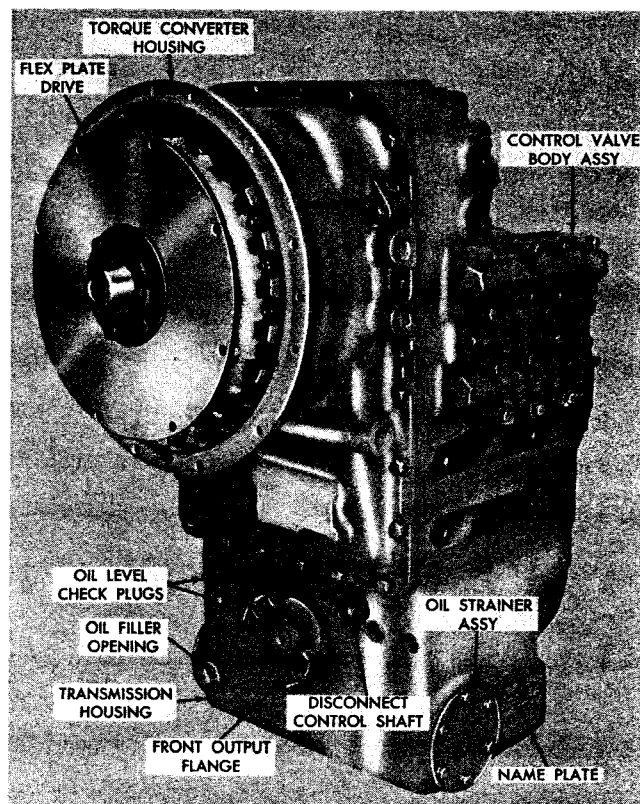
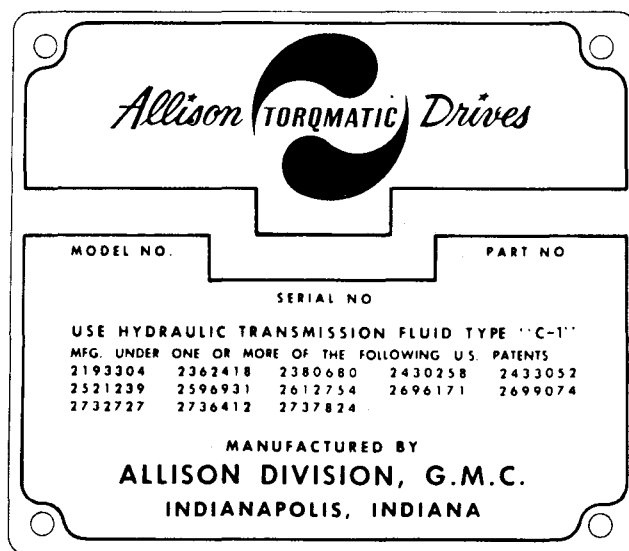

Fig. I-1. Model TT 2220-1 transmission, direct mount—left-front view
Fig. I-3. Transmission name plate
The model TT 2220-1 transmission (fig. I-1 and I-2) is available with a variety of op-
located at the lower-left side of the transmission housing (fig. I-1). This model designation, the transmission assembly number, and the serial number must be given when communicating with the dealer concerning the transmission. Refer to para 5, below, and to fig. I-3.
c. Name Plate. As mentioned in para 4a, above, the name plate (fig. I-3) gives the transmission model number, serial number and part number. To insure that the correct parts for your transmission will be supplied, furnish all three of these numbers when ordering.